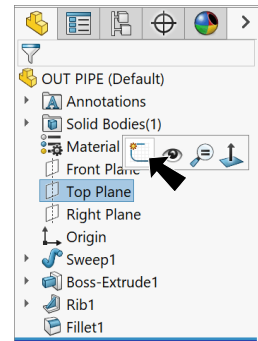

Fig. 31
Step 1. Click **Top Plane**  in the Feature Manager and click **Sketch**  on the context toolbar, **Fig. 31**.